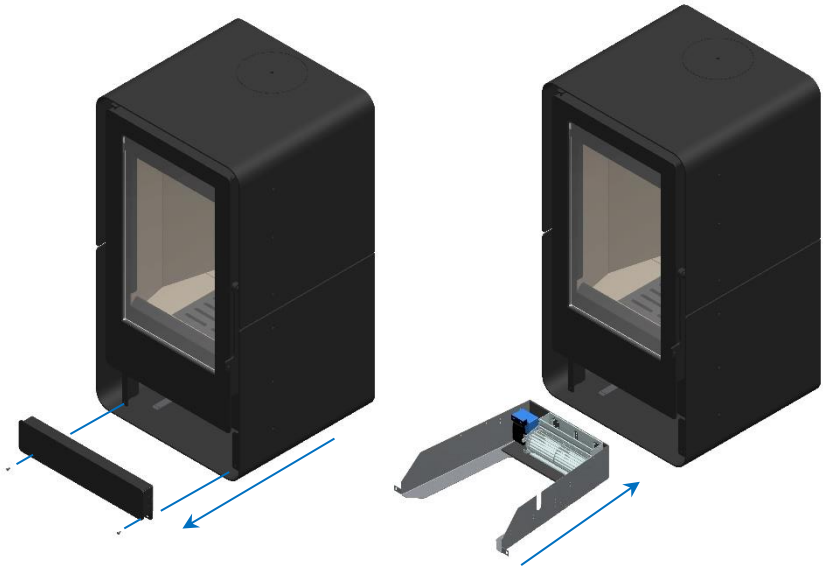

Figure 37 – Installation of the ventilation kit on the Tek Round Eco stove
* Remove front cover and introducing ventilation kit (figure 37);